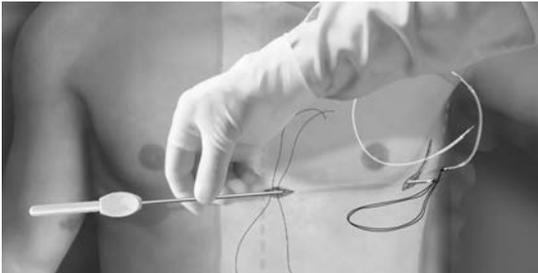

Figure 3. Connecting the Distal End of the Subcutaneous Electrode to the EIT
3. Using conventional suture material, tie the anchoring hole of the subcutaneous electrode to the EIT creating a long 15-16 cm loop (Figure 3 Connecting the Distal End of the Subcutaneous Electrode to the EIT on page 10).